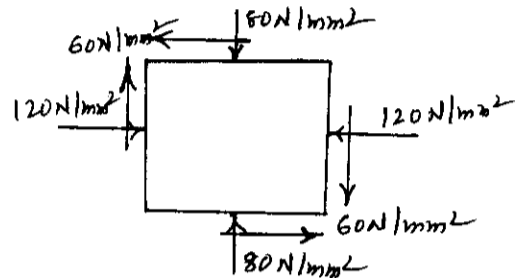

Fig.Q3(c)
c. The state of stress in two dimensionally stressed body is as shown in Fig.Q3(c). Determine the principal planes, principal stresses, maximum shear stress and their planes. (10 Marks)